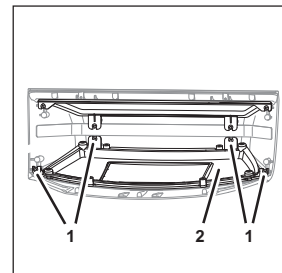

Fig. 40
12. Remove the fastening bolts (Fig. 40/1) from the rear promotional pane (Fig. 40/2).
19. Attach the rear promotional pane (Fig. 40/2) using the fastening bolts (Fig. 40/1).